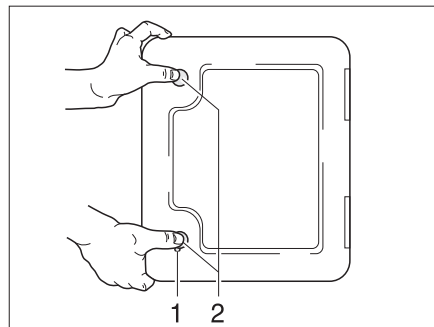

Fig. 33 Flap for toilet cassette
- Insert the key into the locking cylinder of the push-button lock (Fig. 33,1) and turn a quarter turn.
- Press both push-button locks (Fig. 33,2) simultaneously with your thumb and open the flap for the toilet cassette.
- Insert the key into the locking cylinder (Fig. 33,1) and turn a quarter turn.